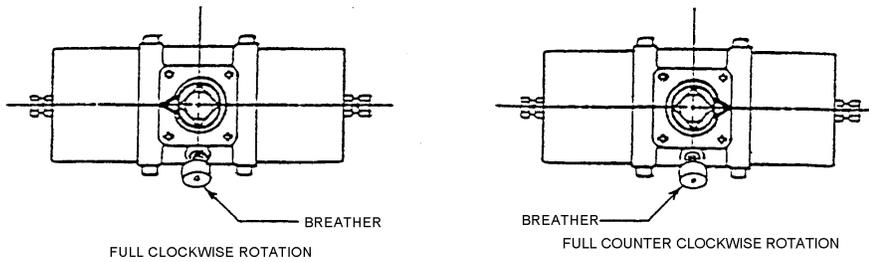

FIGURE 3 - 301-SR SERIES ACTUATOR POSITION INDICATOR
14.2 Install position indicator (1-60) and tighten socket set screw (1-70). Refer to Figure 3 for proper; installation position.